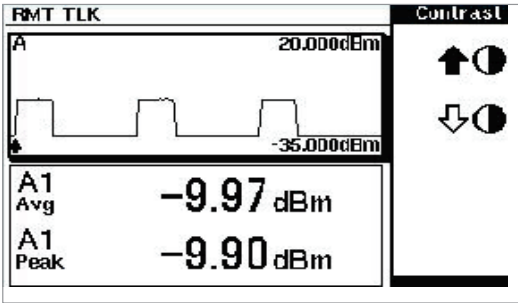

Figure 11. The Bluetooth signal is shown in the upper window. Average and peak power in a single Bluetooth DH1 data burst appear in the lower window.
4. Activate the Bluetooth signal.	Toggle [RF On/Off] and [Mod On/Off] to ON . The screen of the power meter will show three active pulses of a Bluetooth DH1 data burst as shown in Figure 11.